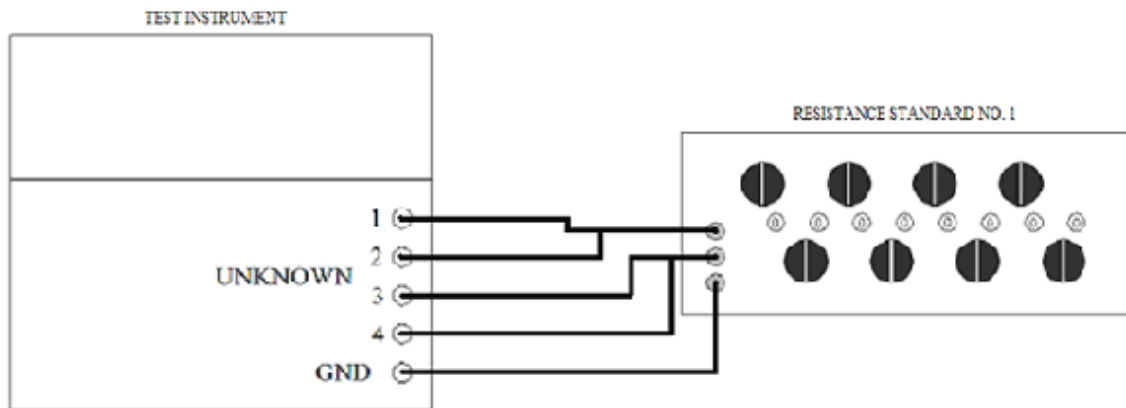

Figure 7. Decade linearization - equipment set.
- c. Connect equipment as shown in figure 7.